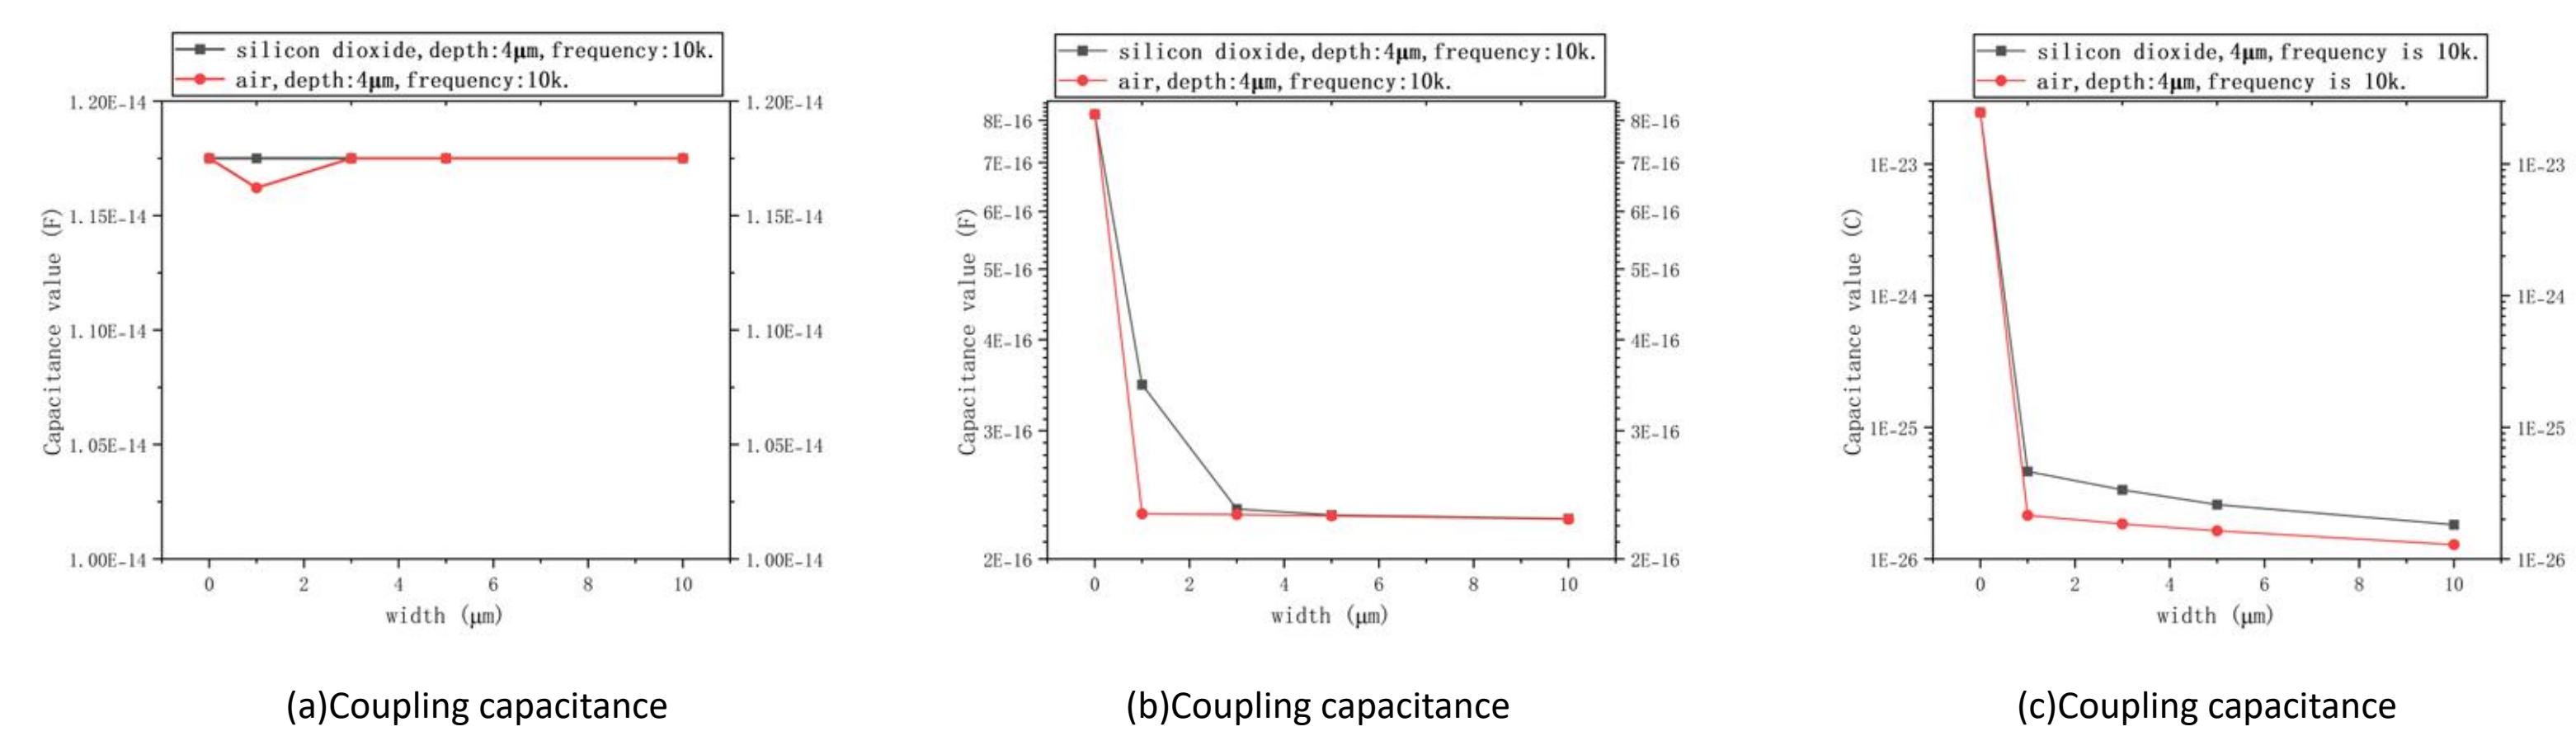

Fig. 2 Effect of different isolation width on capacitance parameters at a fixed depth of 4 μm .
- $C_{\text{inter-pad}}$: Drops by >3 orders of magnitude (width 1 $\rightarrow$ 10 μm), Fig. 2(b).
- C_{bulk} : Decreases by ~70% (width 1 $\rightarrow$ 10 μm), Fig. 2(c).